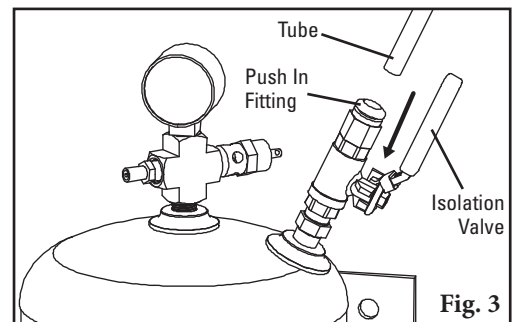

Fig. 3
3. **Connect PAT Air Tank to PAT Control Panel.** Ensure that both the PAT Air Tank isolation value is closed and the Control Panel regulator handle has been wound back to full closed. The PAT Air System uses 10mm push-in connections fittings, before connection ensure that tube end and fitting and are clean and free of debris. Use the 10mm nylon black tube provided with the PAT Air Tension System to connect the tank to panel by firstly inserting the tube into the Air Tanks Fig 3.